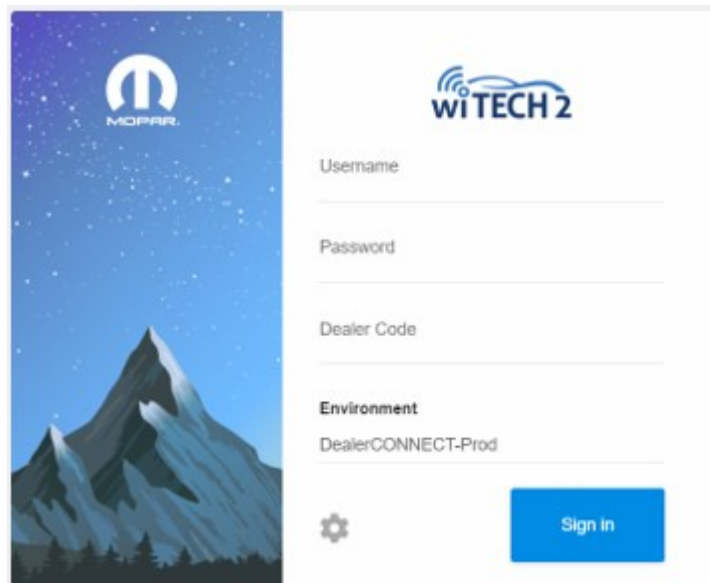

Fig. 1
5. Enter your "User id" and "Password" and your "Dealer Code", then select "Sign In" at the bottom of the screen (Fig. 1) . Click "Accept".